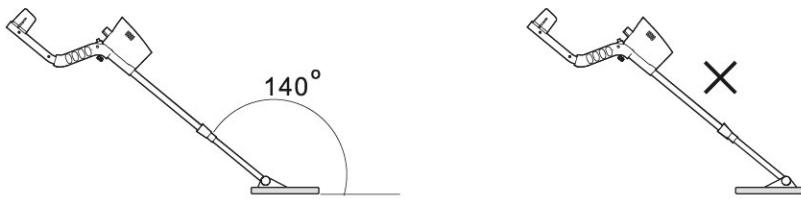

Figure.8
- Lay the search coil properly, keep the angle between search coil and aluminum stem is about 140°.Please note not to mistake it (Figure.8)